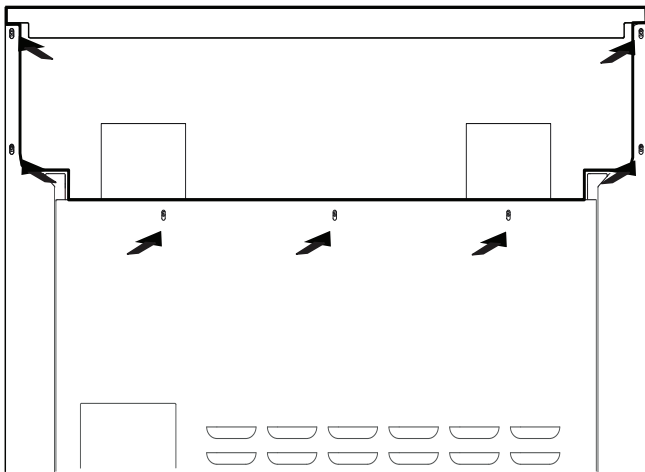

Figure 27: Flush Island Trim Rear Screw Removal
2. Remove the (4) drill point screws securing the trim to the side panels, and the (3) or (4) drill point screws securing the piece to the back panel. Lift up to fully remove (*Figure 27*).